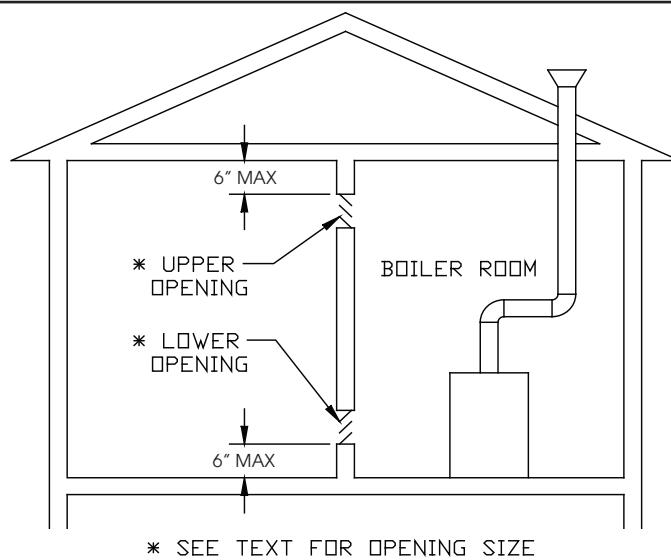

Figure 5.1: Indoor Combustion Air Method
- 4) If the result is at least 50 ft³ per 1000BTU/hr, and none of the conditions described in (6) below are met, normal infiltration should provide adequate fresh air into the boiler room.
- 5) If the result is less than 50 ft³ per 1000BTU/hr, provide two openings into the boiler room, one near the floor and one near the ceiling. The top edge of the upper opening must be within 6” of the ceiling and the bottom edge of the lower opening must be within 6” of the floor (Figure 5.1):
Although combustion air is supplied through the air intake piping, ventilation air is still required around the boiler to prevent overheating of boiler components. If the boiler is installed in a closet, provide two openings in the closet, each having a net free area of 100 square inches as shown in Figure 5.1. Note that these openings are independent of the boiler size. Additional area may be required if other fuel burning appliances are installed in this closet.